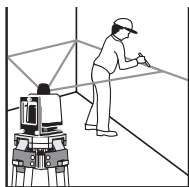

Fig. 3
3. Turn power on and press the control button once for "FAST" speed (ideal for use outdoors with a laser detector), or twice for "SLOW" speed (ideal for indoor use). You have created a highly visible, level reference line (Fig. 3).